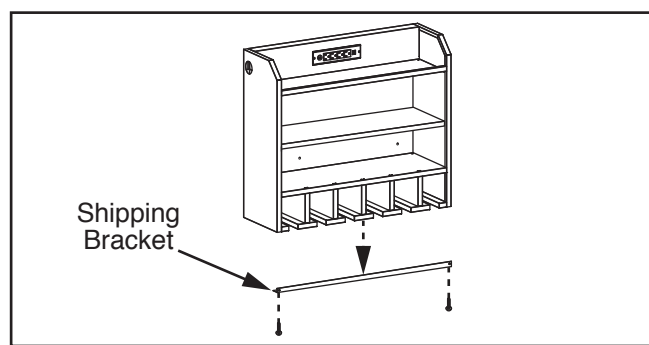

Figure 4. Removing shipping bracket.
1. Remove (2) fasteners and (1) shipping bracket from charging station (see **Figure 4**).